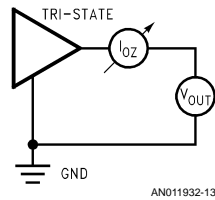

FIGURE 12.  $I_{OZ}$  Test Circuit
**$I_{OZ}$  — TRI-STATE Output Current.** The current into (out of) a TRI-STATE output having input (control) conditions applied that, according to the product specification, will establish a high impedance state at the output. This parameter commonly includes an identifying suffix. For example,  $I_{OZD}$  represents the TRI-STATE output current of a driver, while  $I_{OZR}$  represents the receiver's TRI-STATE output current. In addition  $I_{OZH}$  and  $I_{OZL}$  are also commonly used and denote the forced voltage (logic) level. See Figure 12.